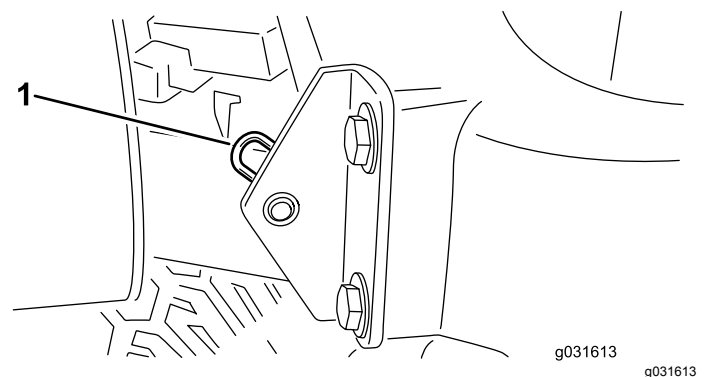

Figure 62
2. Remove the hairpin cotter securing the hood pivot to the mounting brackets (Figure 62).